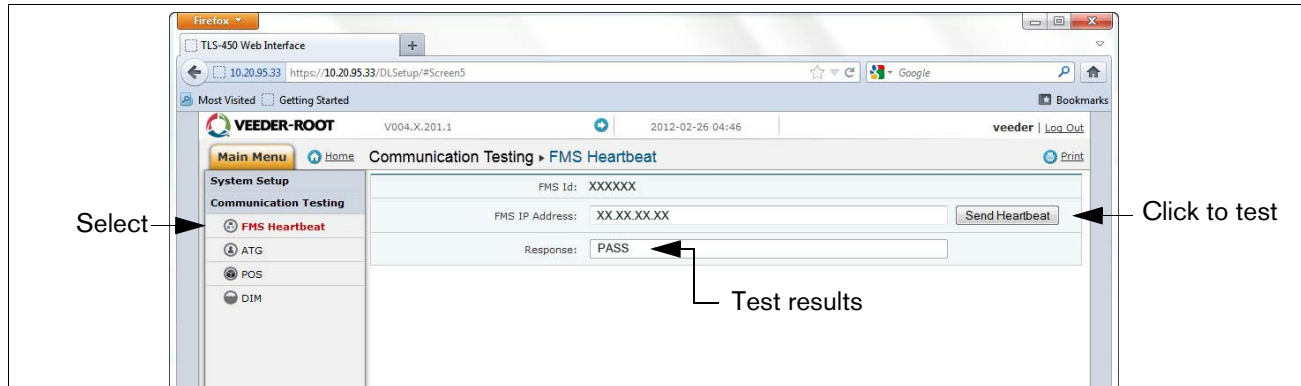

Figure B-18. FMS Heartbeat Screen
19. The Datalogger should now be configured to collect inventory and transactional data, which will be periodically retrieved by FMS. To verify connectivity with FMS, reconnect the Datalogger to the network or cell modem. Go to the "DLSetup" application's Communication Testing screen, click on "FMS Heartbeat", then click on the "Send Heartbeat" button (see Figure B-18). Wait for the "Response" text to indicate PASS or